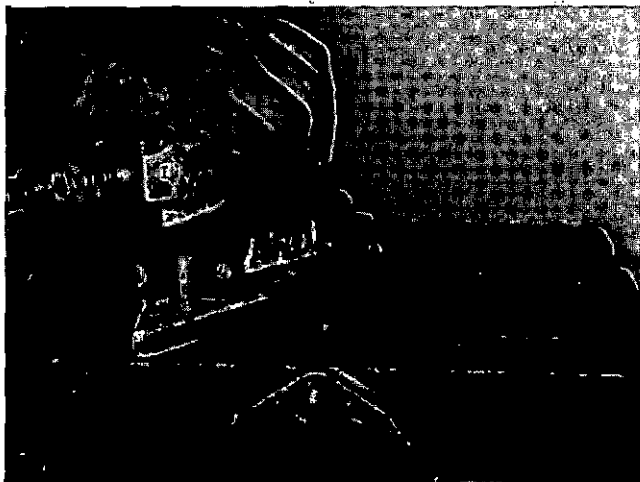

Fig. 2-4 (N10290). Polish The Cylinder Head.
5. Dry the cylinder head with compressed air. Polish the surface with an orbital sander, Fig. 2-4.